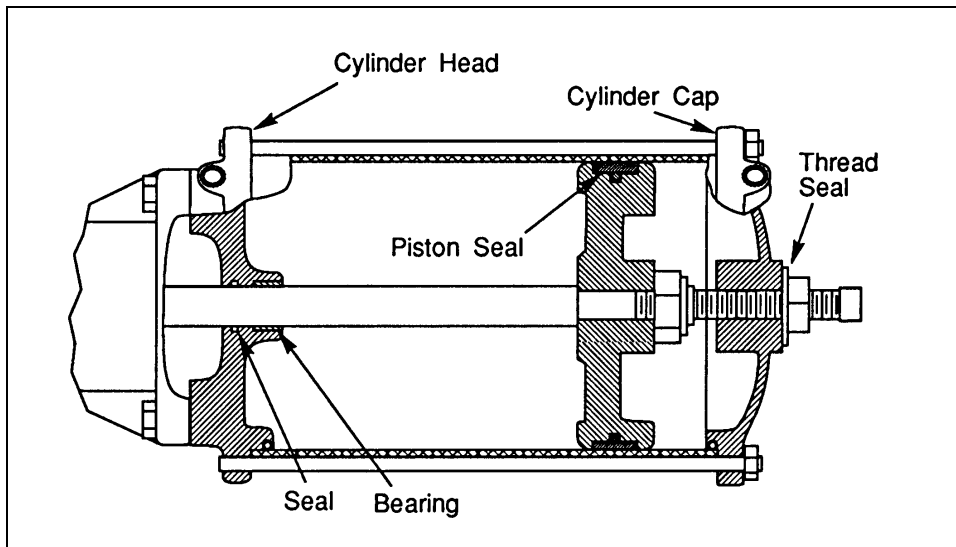

**Figure 1—Piston Rod Seal Placement**
1. Install the piston rod sealing ring and Teflon backing rings as shown in Figure 1.